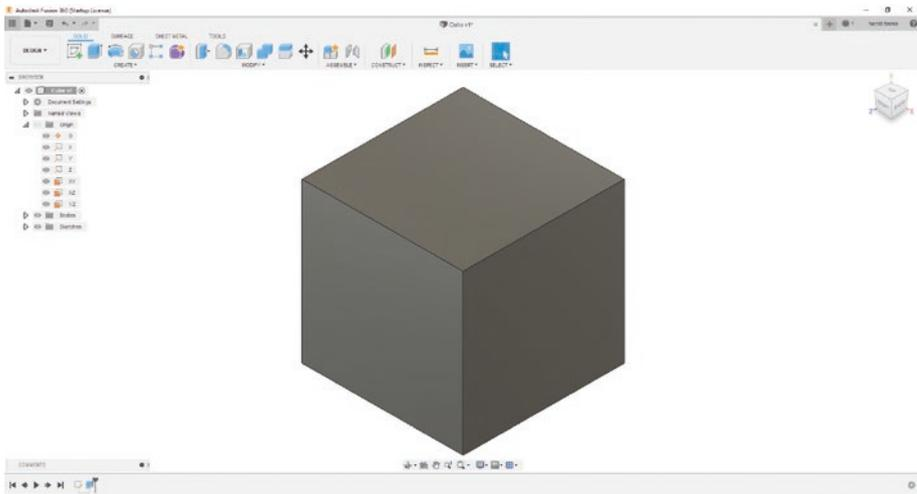

Figure 3-52. Final cube
4. If everything looks fine, press the Enter key or click the "OK" button under the "EXTRUDE" menu. See Figure 3-52.